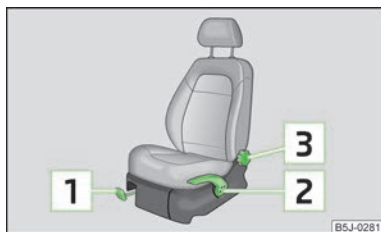

Fig. 37
- Pull the lever » Fig. 37 up and push the seat into the desired position.
- To lift the seat, pull or pump the lever » Fig. 37 upwards.
- To adjust the angle of the backrest, relieve any pressure from the seat backrest (do not lean on it) and turn the handwheel » Fig. 37.